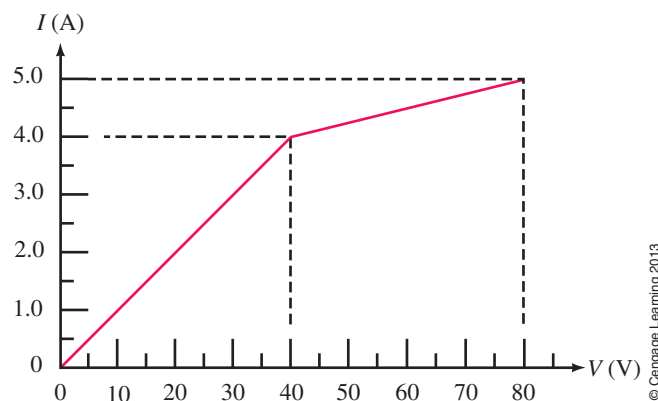

FIGURE 4–40
68. For the resistor of Figure 4–40: